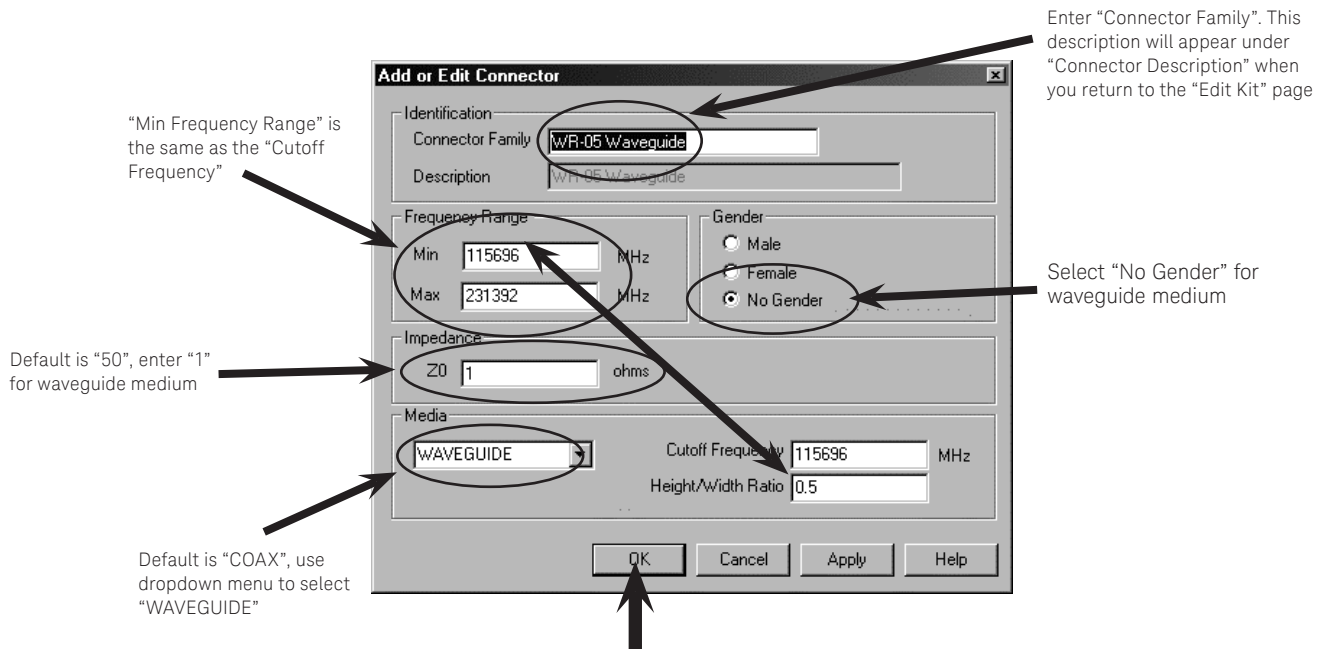

Figure 28. Enter connector (WG) description.
3. Enter “Connector Family,” “Frequency Range” (Min. frequency = Cutoff frequency), 1 for “Z0;” select “No Gender,” and “WAVEGUIDE” (Figure 28)